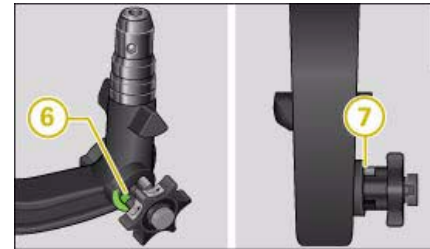

Fig. 241 Removable towing bracket: Safety check
- Check that the green marking **6** ⇒ fig. 241 on the knob is inside the green zone on the ball joint.